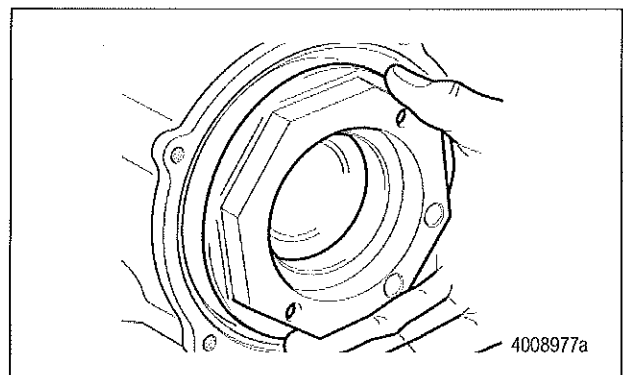

Figure 24
- B. Install the hub retaining nut and tighten until the nut is fully engaged on the spindle thread. Figure 24.